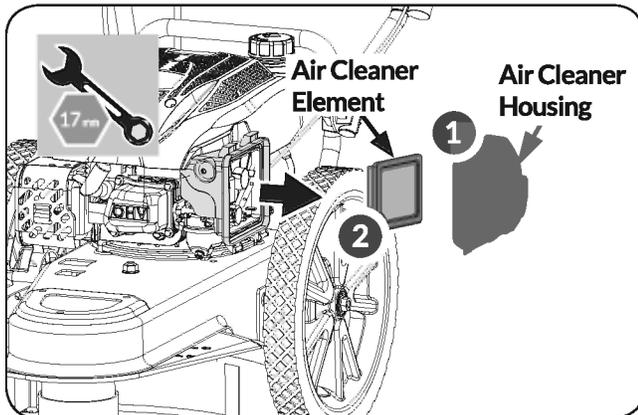

Figure 13
1. Remove the air cleaner housing. (See **Figure 13, illustration 1**)
2. Remove air cleaner element. (See **Figure 13, illustration 2**)